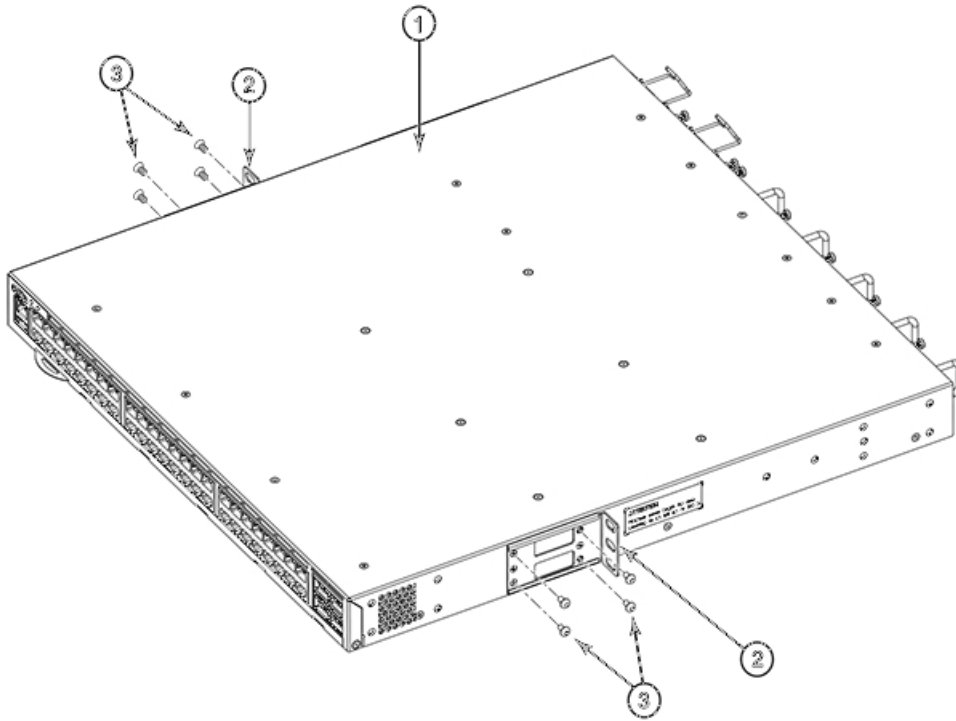

Figure 19. Attaching the front brackets
1. Position the right front bracket with the flat side against the right side of the device, as shown in Figure 19 on page 33.